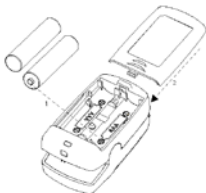

Figure 2 Battery Installation
1. Refer to Figure 2, insert two AAA size batteries into the battery compartment properly.